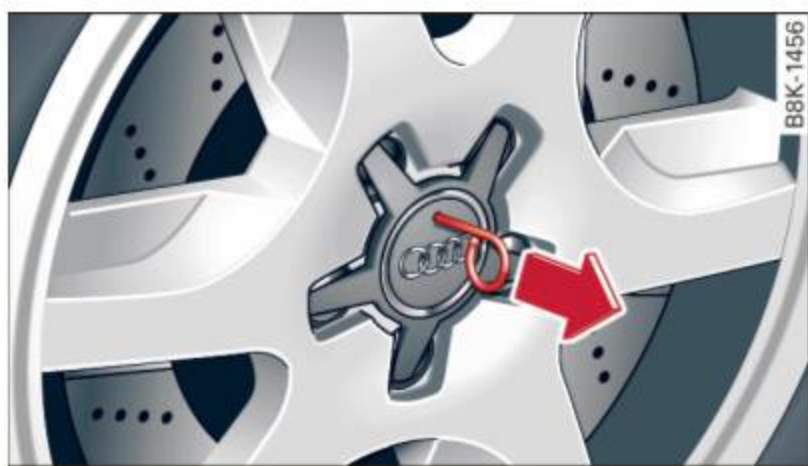

Fig. 176 Changing a wheel: removing the wheel cover
- ▶ Pull off the **decorative wheel cover** ⇒ *fig. 176.*